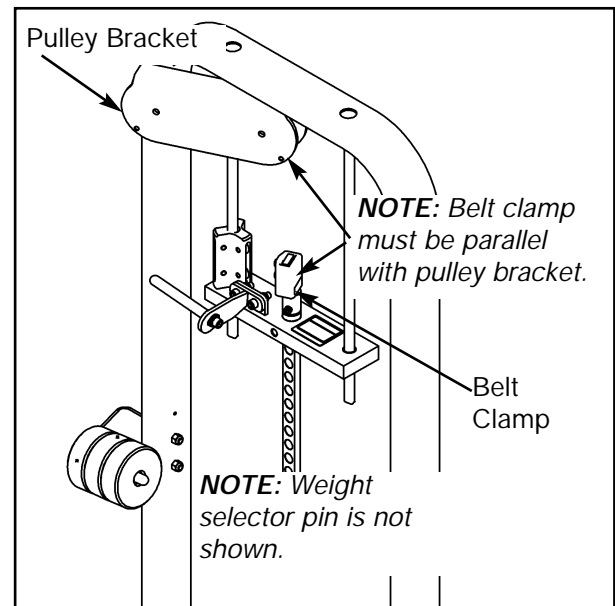

Figure 4
B. Verify that the SHCS securing belt clamp faces weight stack guard. See Figure 4.